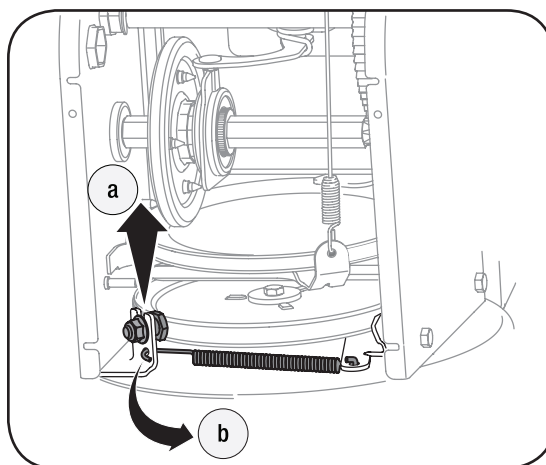

Figure 6-7
4. a. Loosen and remove the shoulder screw which acts as a belt keeper. See Figure 6-7.